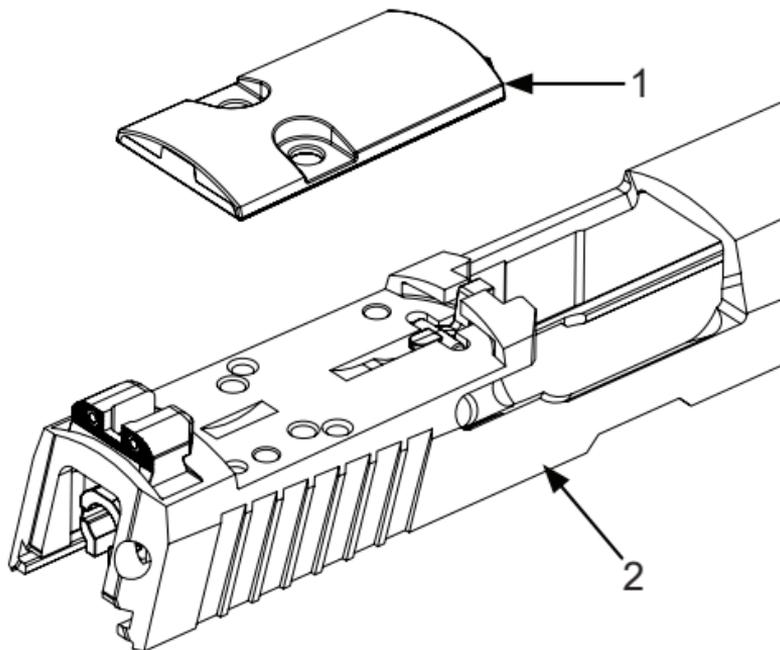

Figure 7. Removal of Sight Plate
7. Remove sight plate (Figure 7, Item 1) from slide (Figure 7, Item 2).